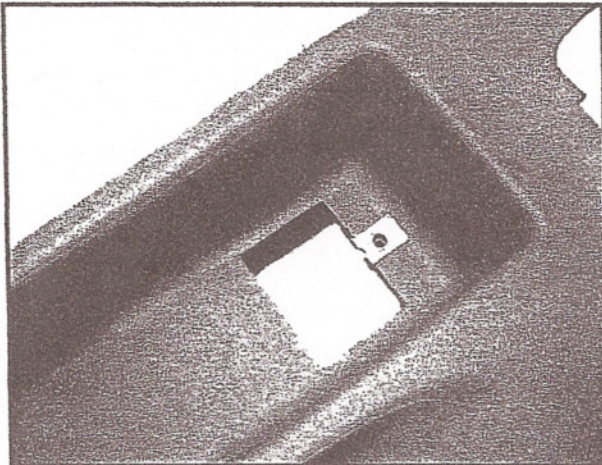

Figure 3
Refer to Figures 3 through 6 for the following procedure
1. Install a speed clip (part number 1 949 950) as shown in Figure 3. (Note: speed clip may be previously installed depending on accessory removed.)